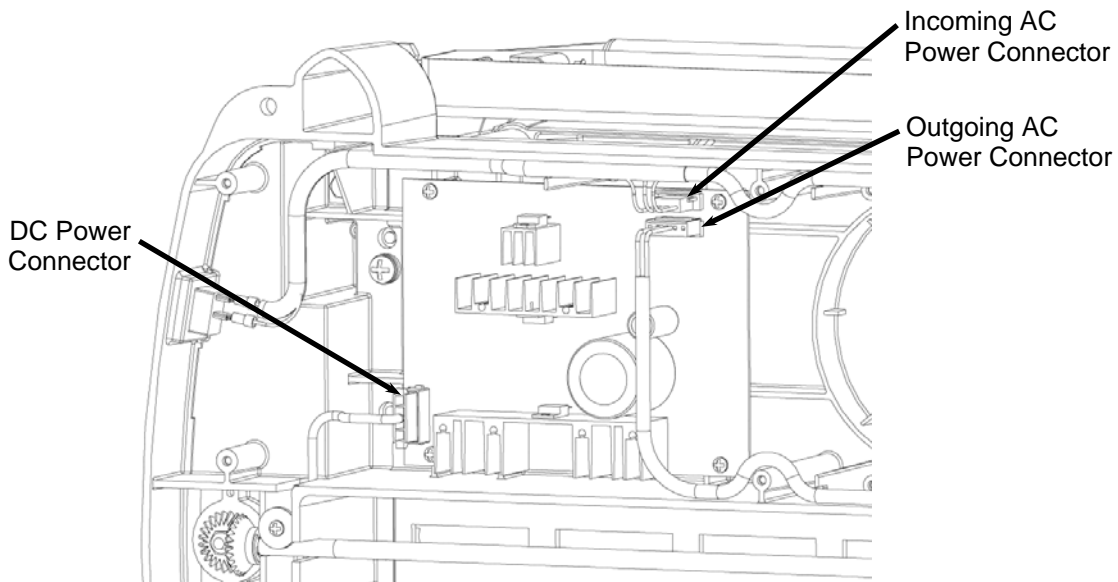

FIGURE 2: LOCATION OF THE POWER SUPPLY CONNECTORS
3. **Reconnect the cables to the power supply board.** Connect each of the three cables going to the power supply as shown in Figure 2. Each cable connector has an orientation keying feature that restricts the connector from being plugged in backwards. **DO NOT FORCE A CONNECTOR.** If the connector does not seat easily please check the orientation and try again.